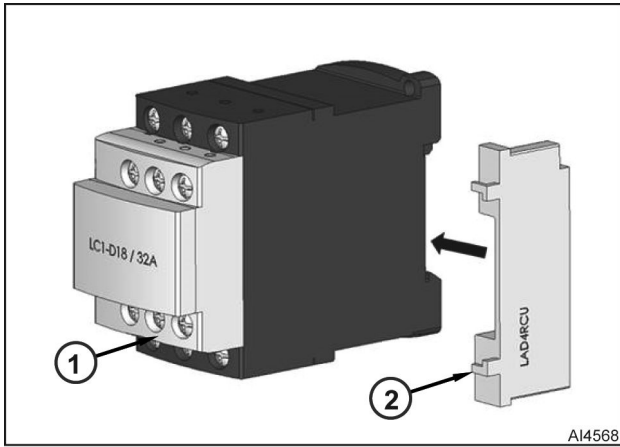

Fig. 15
3. Remove anti-interference filter (2, Fig. 15) from contactor (1).